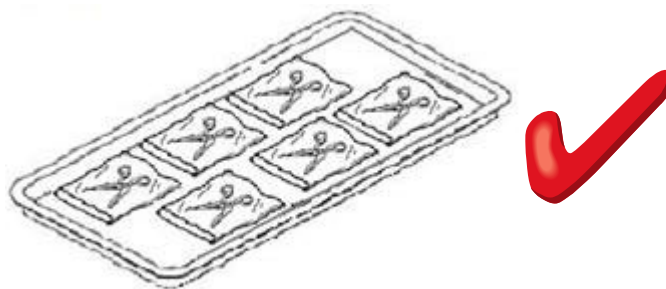
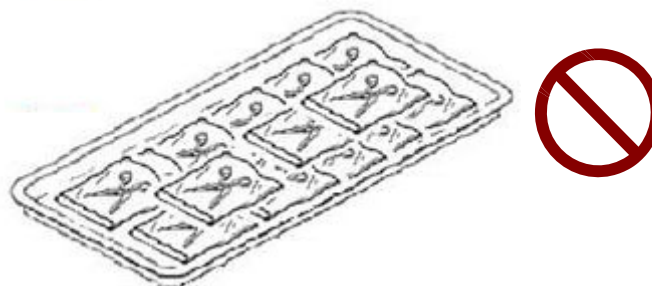

Figure 44
Figure 45
**Warning:** If implements are packed with sterilizing pouches, please make sure not to pile them up. Follow Figure 44 for correct placement and do not overlap pouches like to Figure 45 ensure the sterilization quality.